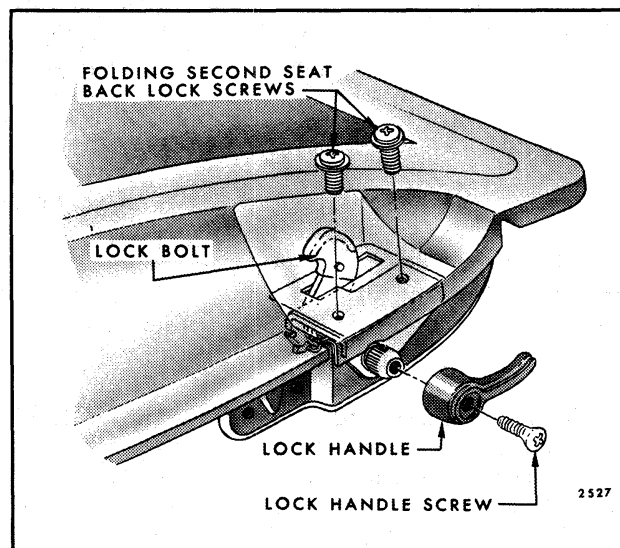

Fig. 9-94-Folding Second Seat Back Lock Installation - All "A and B" Station Wagons
2. Remove seat back lock handle attaching screw and remove lock handle (Fig. 9-94).
3. Remove seat back lock retainer attaching screws and remove seat back lock retainer and lock from seat back panel (Fig. 9-94).